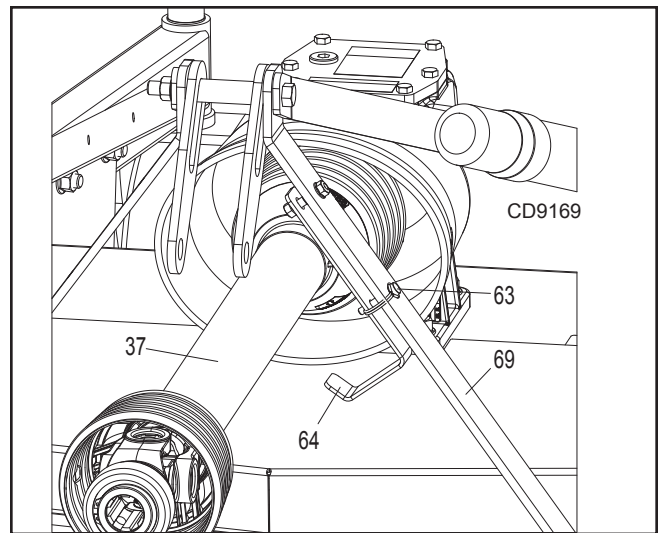

Figure 6. Driveline Holder Storage Position
6. The mower driveline (not shown) should be resting on the drive holder (64).
11. Remove the mower driveline (not shown) from the holder (64) and connect to the tractor PTO shaft. Be sure the driveline QD is seated firmly in the tractor PTO spline groove.
13. Remove the safety pin (63) from the left a-frame bar (69) and swing the drive holder (64) up into the storage position. Reinsert safety pin through a-frame bar and drive holder to secure in place. (See Figure 6)